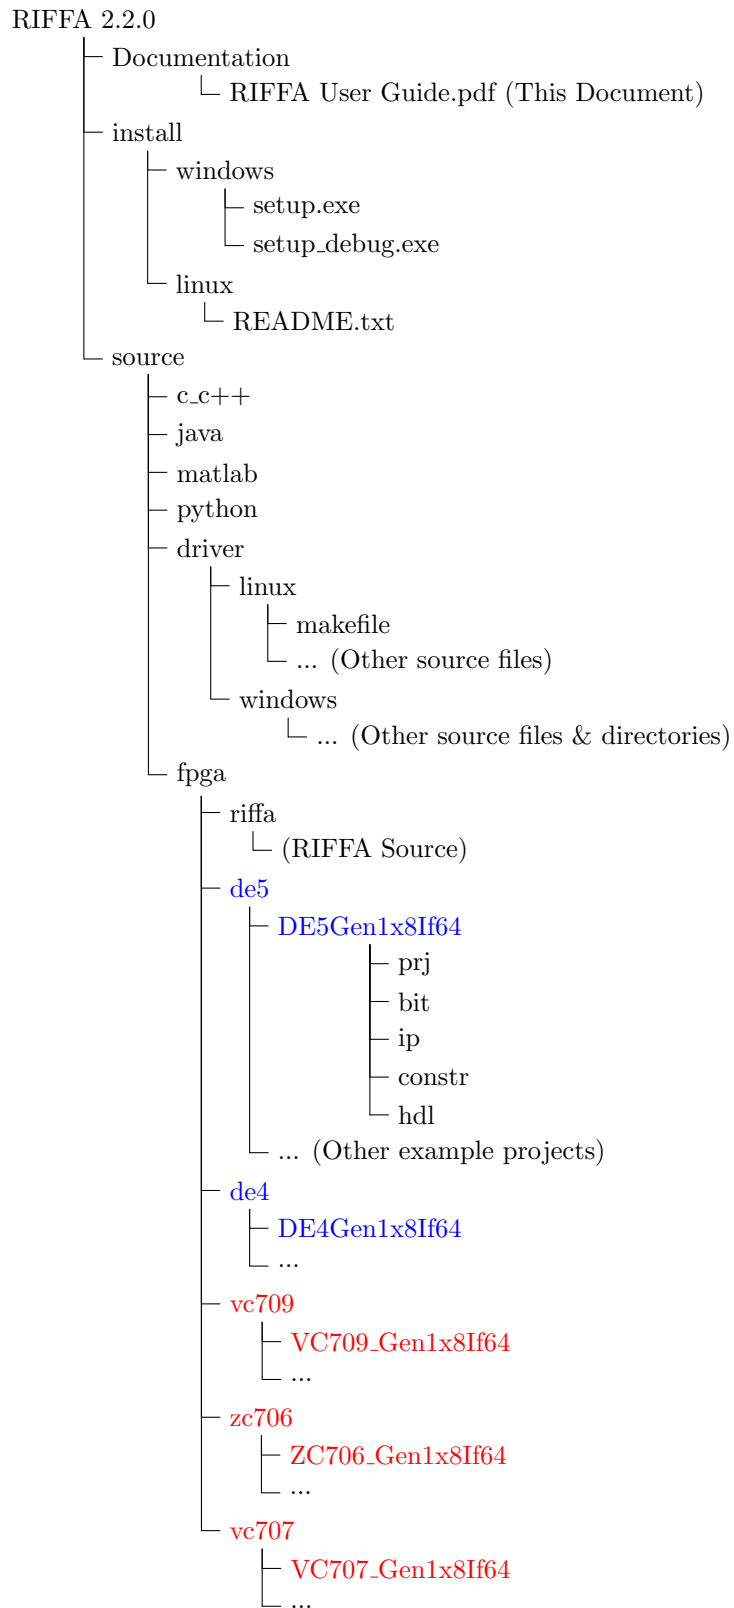

Figure 2.1: Directory hierarchy of the RIFFA 2.2.0 distribution
Fig 2.1 shows the directory hierarchy of RIFFA. This instruction manual uses this directory tree when specifying all directory paths.
8. Bindings for other languages can be installed by following the README files in their respective directories (See Figure 2.1